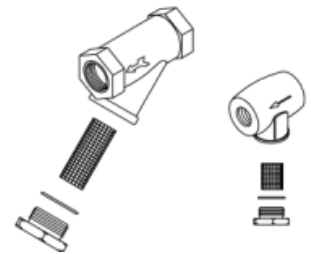

Figure 8-3
2. Unscrew the filter cap from the bottom of the strainer. Refer to Figure 8-3, which shows the various strainers supplied with the different steamers.